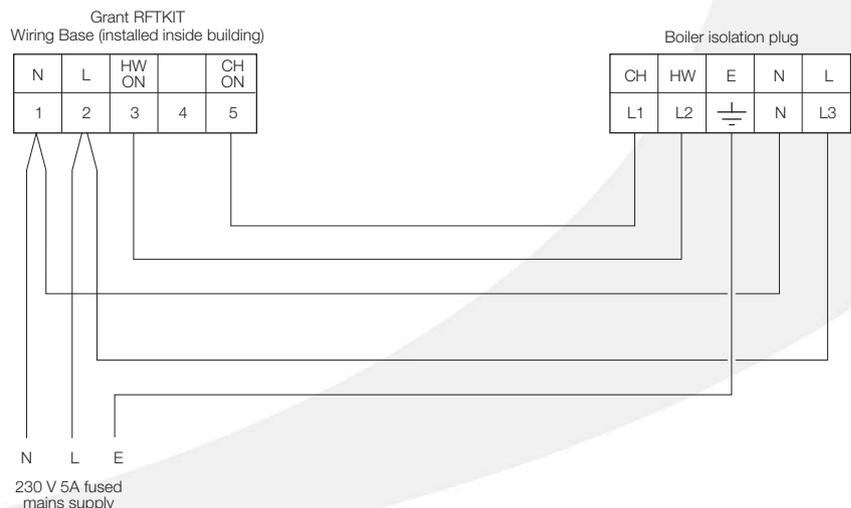

Figure 8-4: Connections for Grant wireless two-channel programmable room thermostat (RFTKIT)
The RF Receiver/switching unit (FM/2) for the RFT Programmable Room Thermostat is fitted in a wiring base that is located within the property. It is wired directly to the boiler isolation plug, on the control panel of the External Combi boiler. Refer to Figure 8-4 for connection details.
5. Connect the four wires from the FM/2 wiring base to the boiler isolation plug. Refer to Figure 8-4 and also the Fitting and User Instructions supplied with the RFT kit.
6. Connect the mains earth to the earth terminal on the boiler isolation plug – refer to Figure 8-4.